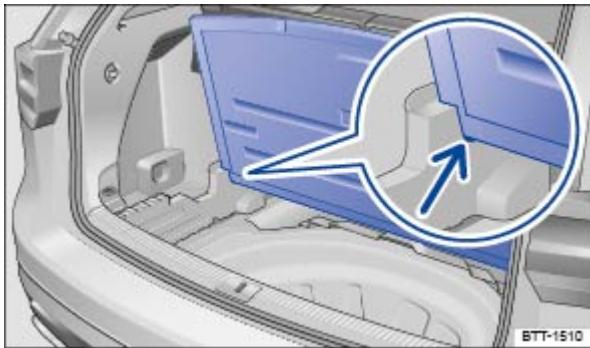

Fig. 157 In the luggage compartment: Holding the luggage compartment floor in place.
- To keep the luggage compartment floor raised, place it in the brackets on the sides of the luggage compartment ⇒ Fig. 157 (arrow).